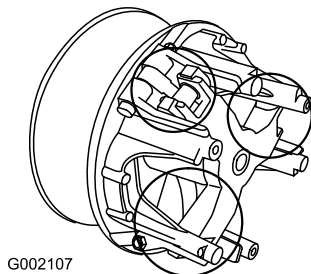

Figure 41
5. Lubricate the moving parts in the areas circled in Figure 41 using Toro Dry Lubricant Spray, available through your Authorized Toro Dealer or Distributor.